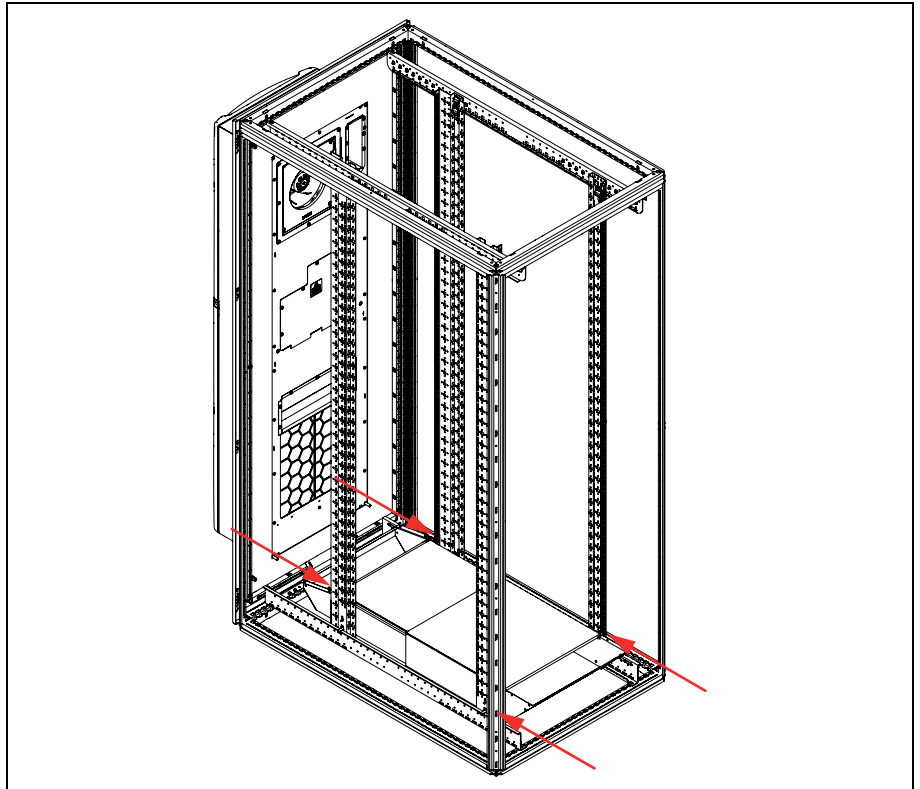

Fig. 13: Tightening points for the screws in the keyholes
- Now tighten the loosely inserted screws with a tightening torque of 3 Nm (fig. 13).